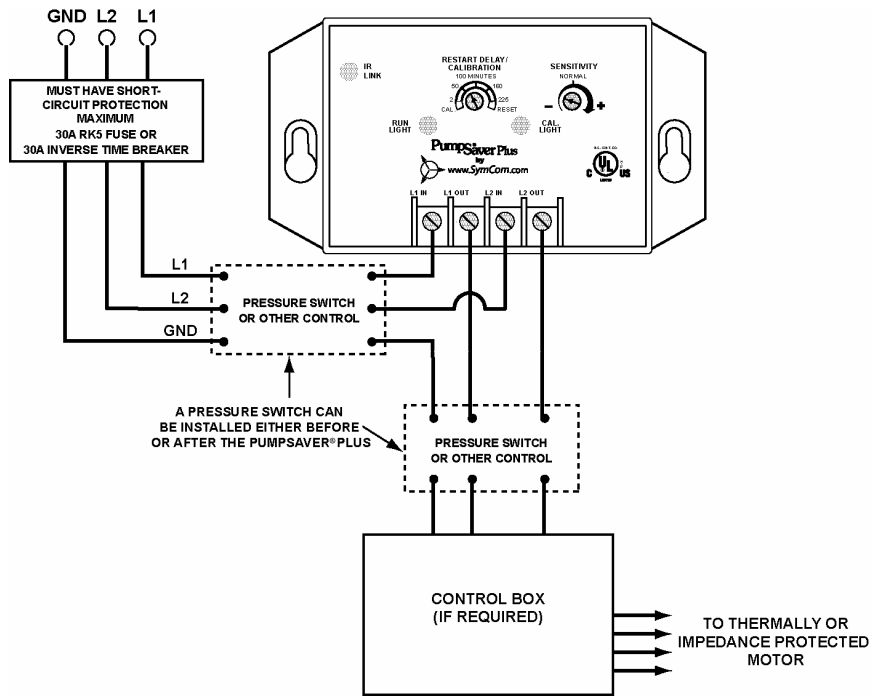

FIGURE 1: Typical Wiring Diagram
3. Connect the other line from the fused disconnect (ungrounded fused conductor) to the **L2 IN** terminal of the PumpSaver[®]Plus. Run a wire from the **L2 OUT** terminal to the other in-line controls such as pressure or float switches (see Figure 1).
- Typical wiring diagram – Figure 1